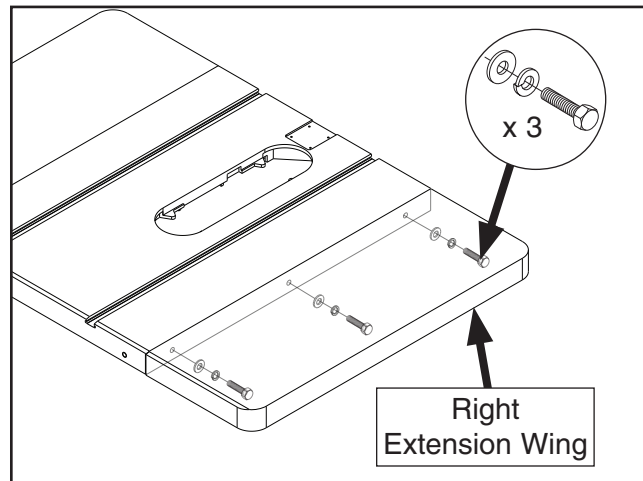

Figure 19. Mounting right extension wing to main table.
7. **Model G1023RL:** Repeat **Step 2** with right extension wing and have someone hold it in place while you mount it to main table with (3) $\frac{3}{8}$ "-16 x $1\frac{1}{4}$ " hex bolts, (3) $\frac{3}{8}$ " lock washers, and (3) $\frac{3}{8}$ " flat washers (see **Figure 19**).